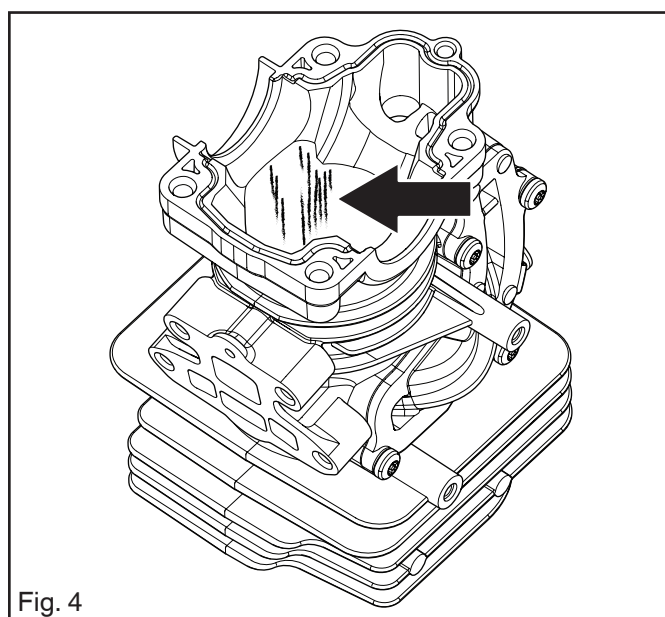

Fig. 4
2. That the cylinder is free of score marks. See figure 4.